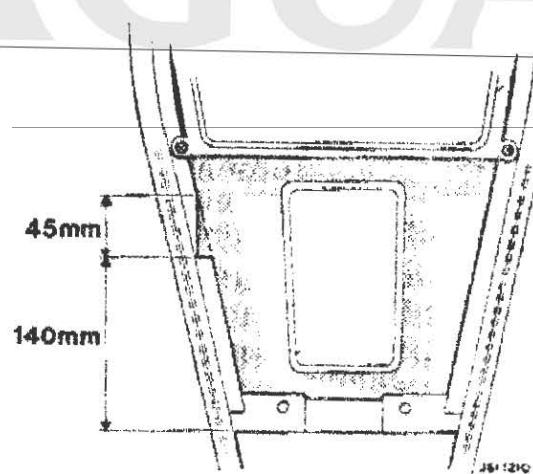

FIG 3
- * Mark out the dimensions on the LH side of the console armature, see Fig 3 and using a fine toothed junior hacksaw blade, cut out the section identified.